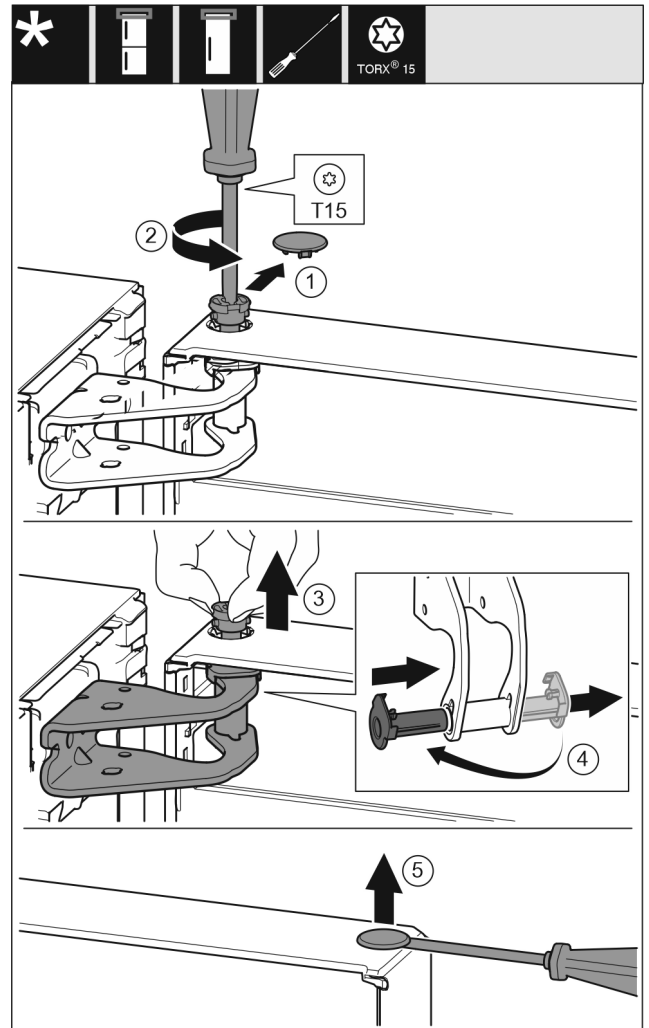

Fig. 10
- Carefully remove the protective cover. Fig. 10 (1)
- Undo the bolt a little with a T15 screwdriver. Fig. 10 (2)
- Hold the door and remove the bolts with your fingers. Fig. 10 (3)
- Pull the bearing bush out of the guide. Insert from the other side and latch into place. Fig. 10 (4)
- Carefully lift the plugs out of the door bearing bush with a slotted screwdriver and pull them out. Fig. 10 (5)